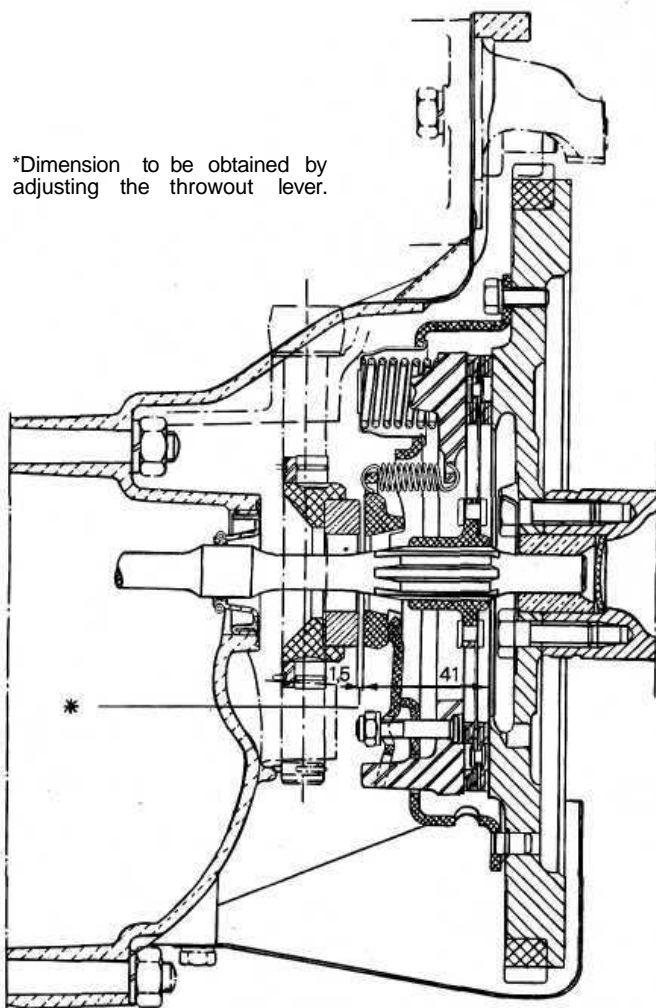

FIG 5:1 Clutch assembly longitudinal section (new 500, 500D sedan and early station wagon)
The clutch is a single plate dry disc type operating on the inner face of the flywheel. **FIG 5 :1** shows a longitudinal cross section of the clutch as it is assembled in the power unit.
A sheet metal clutch cover is attached to the flywheel by means of six screws and this encloses a clutch driven plate, the pressure plate and six springs. Three withdrawal levers are fitted so that the inner ends are attached to a carrier ring through which three springs hold the levers in place and the carrier ring in contact with the pressure plate, (see **FIG 5:1**). Release of the driven plate is obtained through a throw-out ring fitted with a central carbon thrust ring which acts on the withdrawal levers carrier ring. This is controlled by the clutch pedal through suitable linkage to the control fork.
- 4 To refit the clutch cover assembly to the flywheel ensure that the driven plate is assembled the correct way round as shown in **FIG 5:1** and place the cover onto the flywheel using the locating dowels.
- 5 To ensure that the driven plate is correctly centred use Fiat pilot A.62023 (see **FIG 5:5**) or a suitably sized mandrel. Tighten the clutch mounting screws diagonally a turn at a time to ensure correct location of the cover onto the flywheel face. Finally, tighten to a torque wrench setting of 5.8 to 7.2 lb ft.